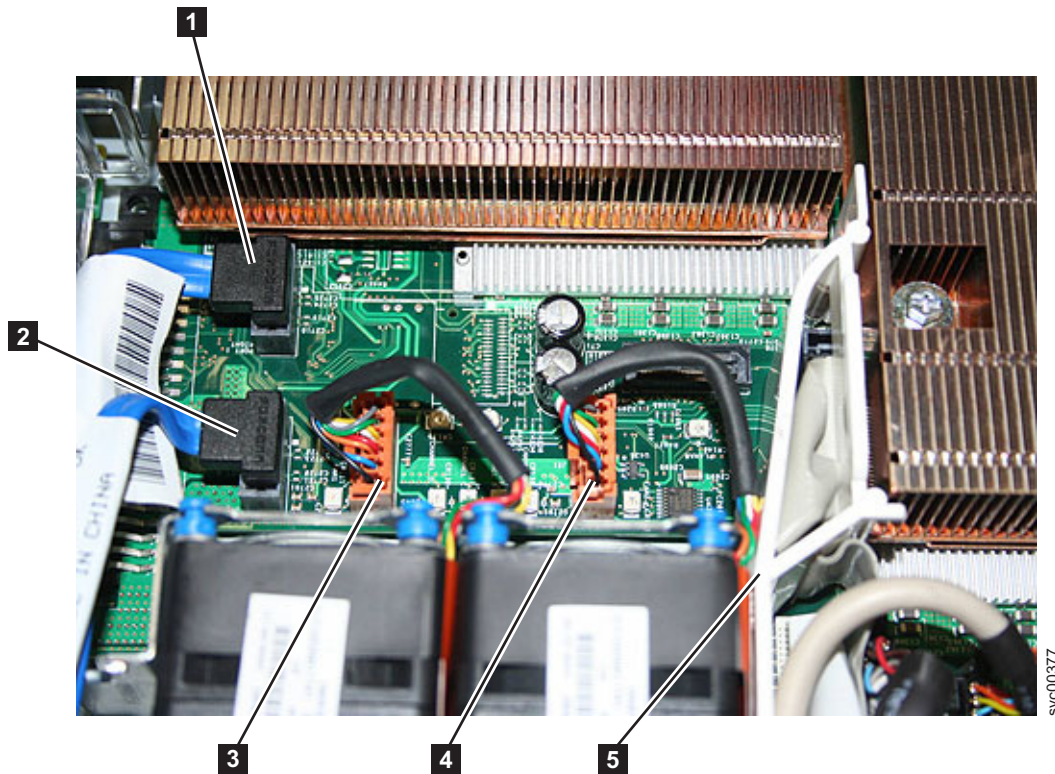

Figure 279. Connectors on the SAN Volume Controller 2145-8G4 system board
6. Disconnect the first set of cables from the system board, which are shown in Figure 279 on page 297. From the left front side of the system board, remove the following: